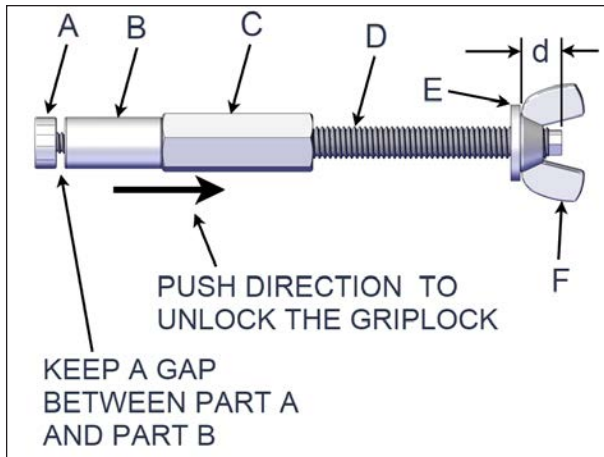

FIGURE 58: GRIPLOCK DEVICE
1. Install the Griplock completely into the hexagonal coupling nut, see Figure 58.
4. Ensure that the washer and the wing nut are mounted at the minimum distance of $d=1/2"$, see Figure 58.
5. Keep a gap between part A and part B as shown in Figure 58
6. Push on the Griplock nut according to the specified direction to unlock the mechanism, see Figure 58.
If the Griplock assembly does not fit easily, it must be because the Griplock nut ("A" in Figure 58) has not been loosen enough.